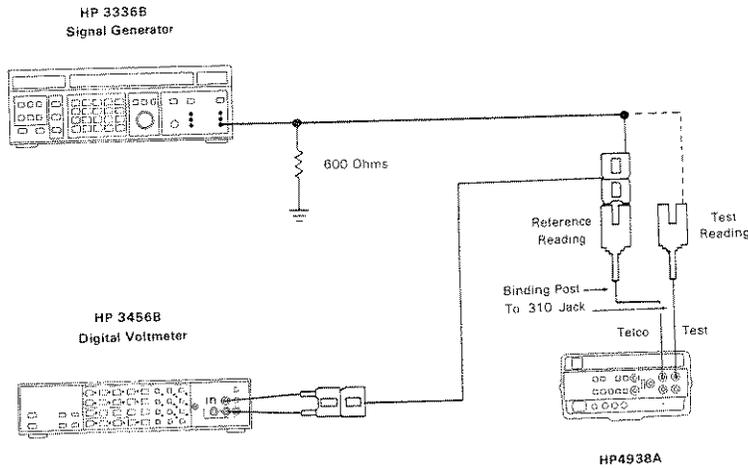

Figure 4-1. Simplex Transformer Test Setup
1. Connect equipment as shown in figure 4-1.